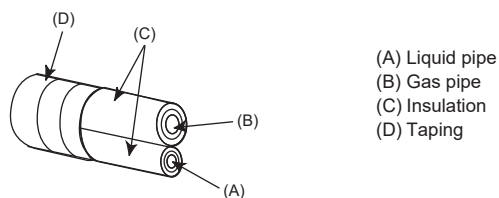
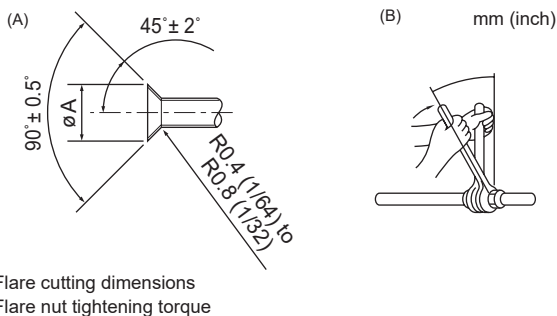

Fig. 4-1
Fig. 4-2
(A) (Fig. 4-1)
(B) (Fig. 4-1)
4.2. Connecting pipes (Fig. 4-1, Fig. 4-2)
When commercially available copper pipes are used, insulate both the liquid and gas pipes separately with commercially available insulation materials (heat-resistant to 100°C, 212°F or more, thickness of 12 mm, 1/2 inch or more). (Fig. 4-1)
[Fig. 4-2]